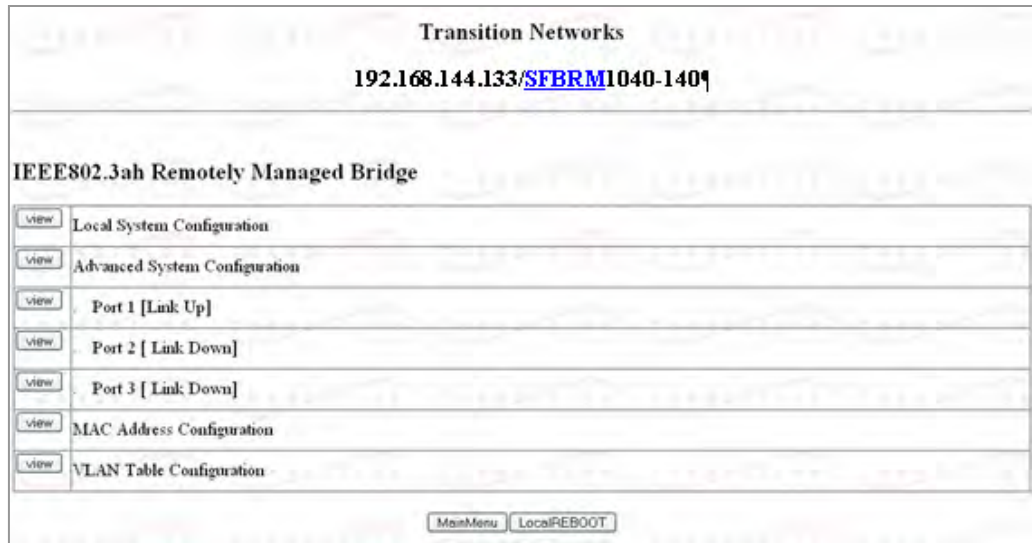

Figure 46: Redundant Device Main Menu
5.	Press the ENTER key to launch the SFBRM main menu, as shown in Figure 46.